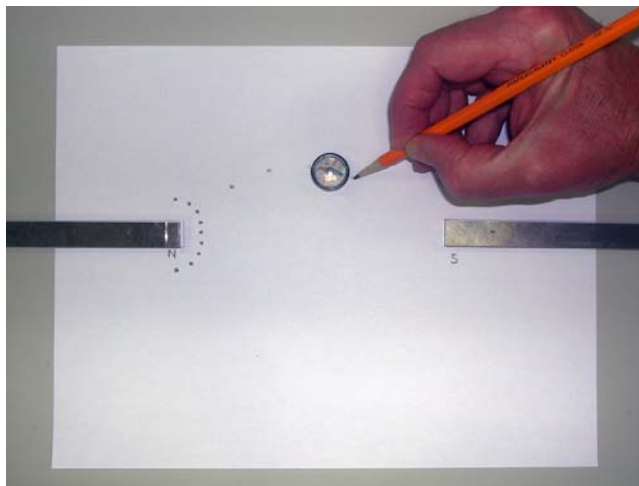

Figure 2: Attractive Dipole Setup
1. Position the magnets so they are about halfway onto a piece of $8\frac{1}{2} \times 11$ inch paper as shown in Figure 2. The north pole of one magnet should face the south pole of the other. Draw a line around each magnet and label the poles. Near the north end, make a semi-circle of nine dots with one dot on the symmetry axis and four above the axis and four below as shown.
2. Position the compass so the south end of the compass points to one of the dots in the semi-circle (in Figure 2, I started at the third dot from the top). Using a wooden pencil (why?) make a dot on the paper where the north end of the compass needle points. Then move the compass so the south end points to the dot you just made and mark a new mark where the north end points. Continue until you go off the paper or reach the south pole of the other magnet. Fit a smooth curve to the dots. Don't forget that the field is a vector!